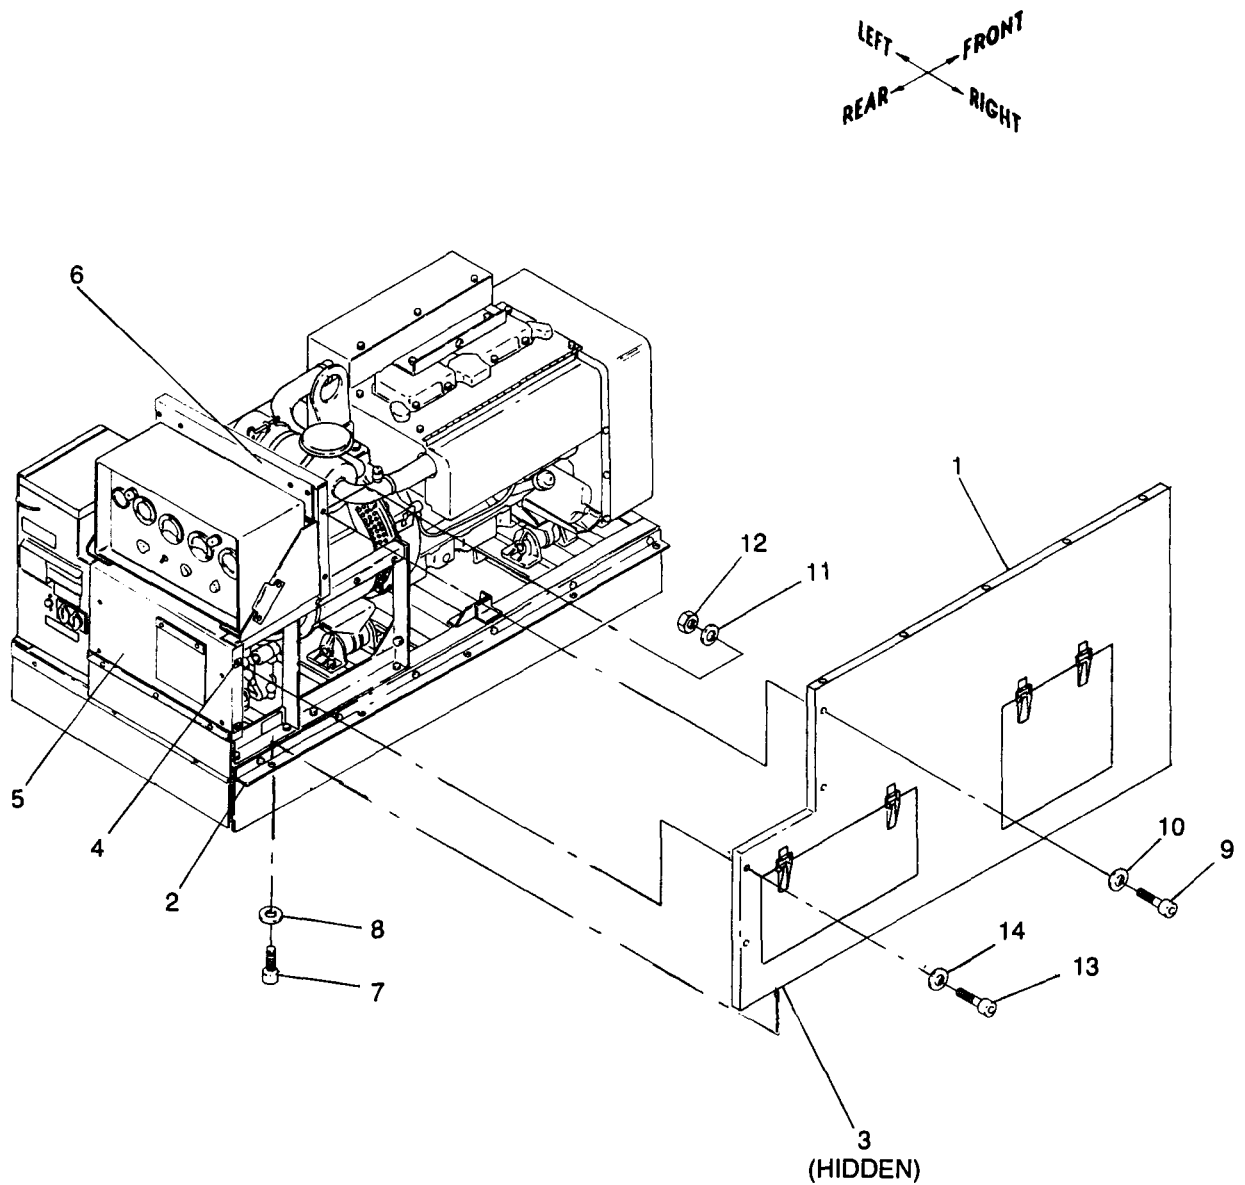

Figure 10-5. Installation of Right Panel Assembly
9.	Right Panel (Long Side) (1, fig. 10-5)
(1) Refer to figure 10-5 and clear out acoustic fill from holes in right panel assembly (1) using 3/8 inch diameter pin.
(2) Locate right panel assembly (1) on right support assembly (2) by aligning captive nuts (3) in right panel assembly (1) with holes in right support assembly (2). Align captive nuts (4) in rear panel assembly (5) with holes in right panel assembly (1). Align holes in right panel assembly (1) with holes in rear closure assembly (6).
(3) Install right panel assembly (1) to right support assembly (2), with five screws (7) and five washers (8). Install right panel assembly (1) to rear closure assembly (6) with two screws (9), four washers (10 and 11) and two locknuts (12). Install right panel assembly (1) to rear panel assembly (5) with two screws (13) and two washers (14) (as listed in table 10-1, item 9).
(4) Torque screws (7) and screws (13) to 18  $\pm$ 2 in.-lbs dry.
(5) Torque screws (9) to 16  $\pm$ 2 ft-lbs dry.